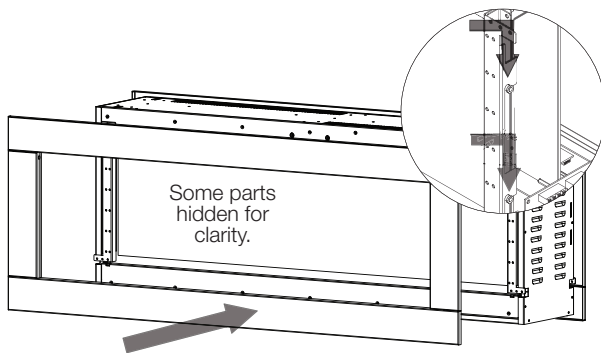

Fig. 4-3
- Have 2 people lift the front trim onto the hooks located inside the firebox (**Fig. 4-3**).